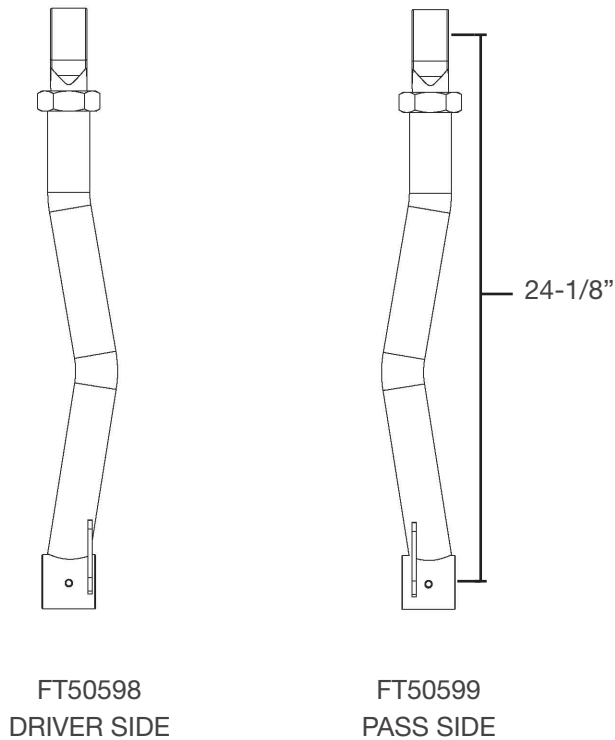

FIGURE 1 - STEP 4
4. Install FT50598 (Driver lower link) using the supplied FT50594 (16mm Misalignments) and factory hardware. Torque to 160 ft-lbs. **SEE FIGURE 1 FOR LINK IDENTIFICATION AND PRE-SET MEASUREMENTS. SEE FIGURES 2-3 FOR INSTALLATION.** From the center of the rod end to the center of the barrel should measure 24-1/8" on both front links.